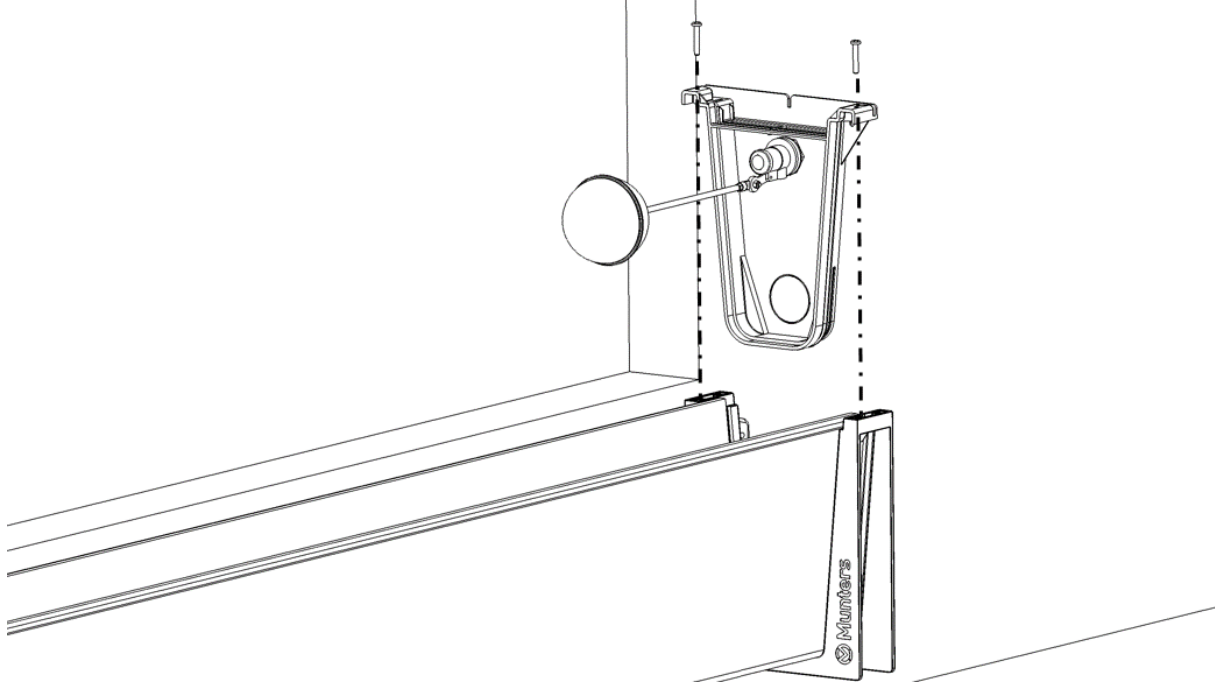

Figure 13
Using a Small Hammer [ref. 5 / Assembling Tools] gently break the pre-cut hole in the Bottom Gutter End Cover [ref. 18] to insert the Float Valve [ref. 37] and the inflow (Water Supply). Tighten correctly the Float Valve using its backing nut and placing the gaskets on each side. Use two wrenches to properly fix the float valve without breaking the end cover. Then, close the right side of the Munters Gutter System by installing the Bottom Gutter End Cover [ref. 18] and fixing it to the External Joint Bracket by means of (2 pcs) Screws for thermoplastic [ref. 7]. See Figure 13.